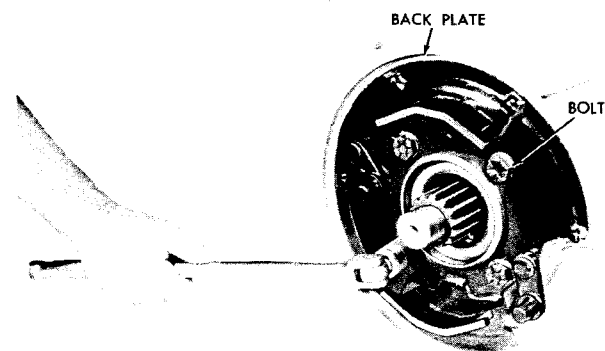

Fig. 5-5. Removing brake back plate bolts (-1 model)
(2) Remove the nuts and washers which retain the output flanges. Using a suitable puller, remove the flanges (refer to para 4-8a).
(3) Remove four self-locking bolts which retain the brake back plate (fig. 5-5). Remove the back plate assembly.
(4) Remove two springs 5 (B, foldout 14, two shoe assemblies 4, lever 6, and roller 3.
(5) On remote-mount installations, the input flange also is removed as outlined in (2), above. If the input flange is retained by bolts, refer to e(2) and (3), below.